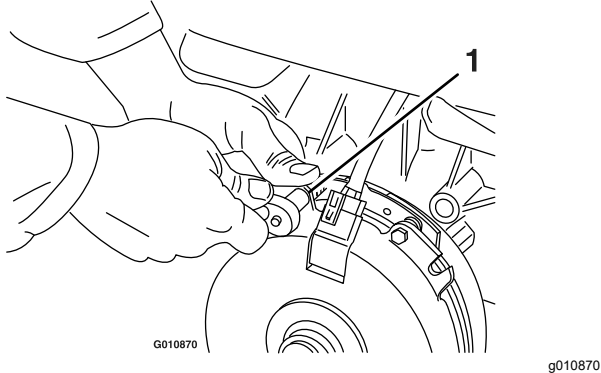

Figure 65
- A. Loosen both brake-mounting bolts 1/2 to 1 full turn as shown in Figure 65.